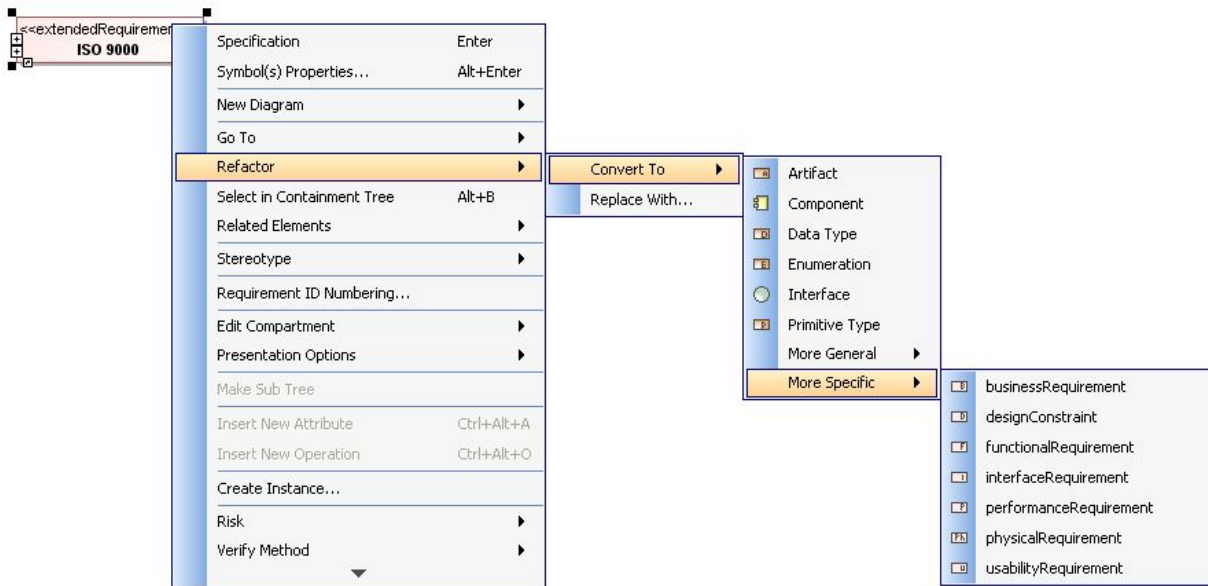
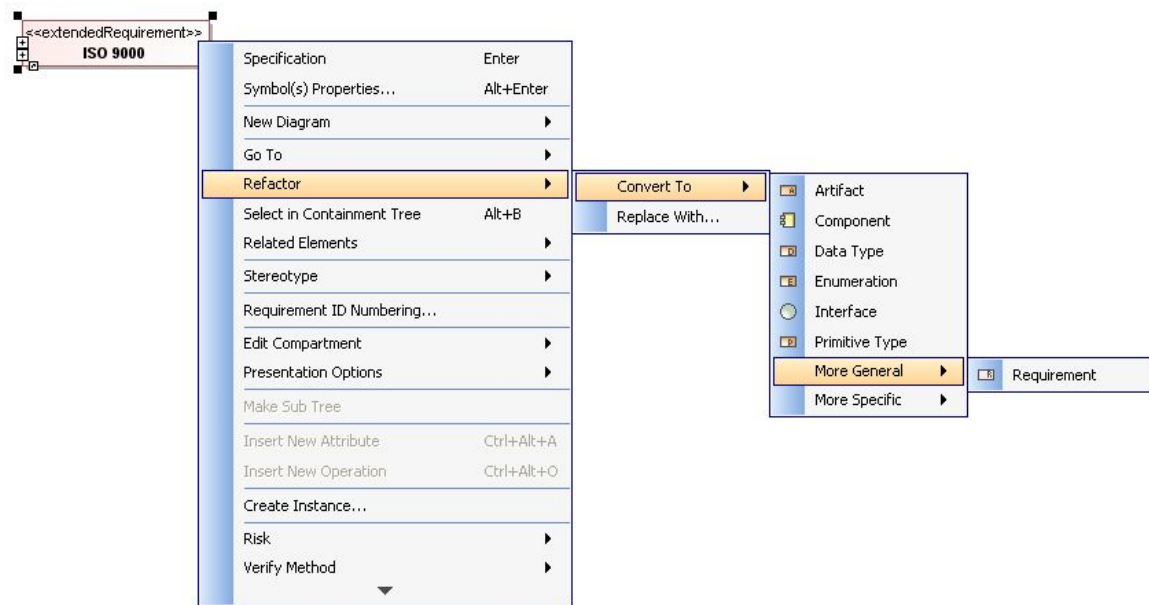

Figure 134 -- Change Requirement Type Shortcut Menu - More Specific
Figure 135 -- Change Requirement Type Shortcut Menu - More General
1. Right-click a requirement(s) whose type(s) you would like to change and select **Refactor > Convert To** (Figure 134).
2. Select **More Specific** (Figure 134), **More General** (Figure 135), or **Other**. The requirement type options will be displayed.